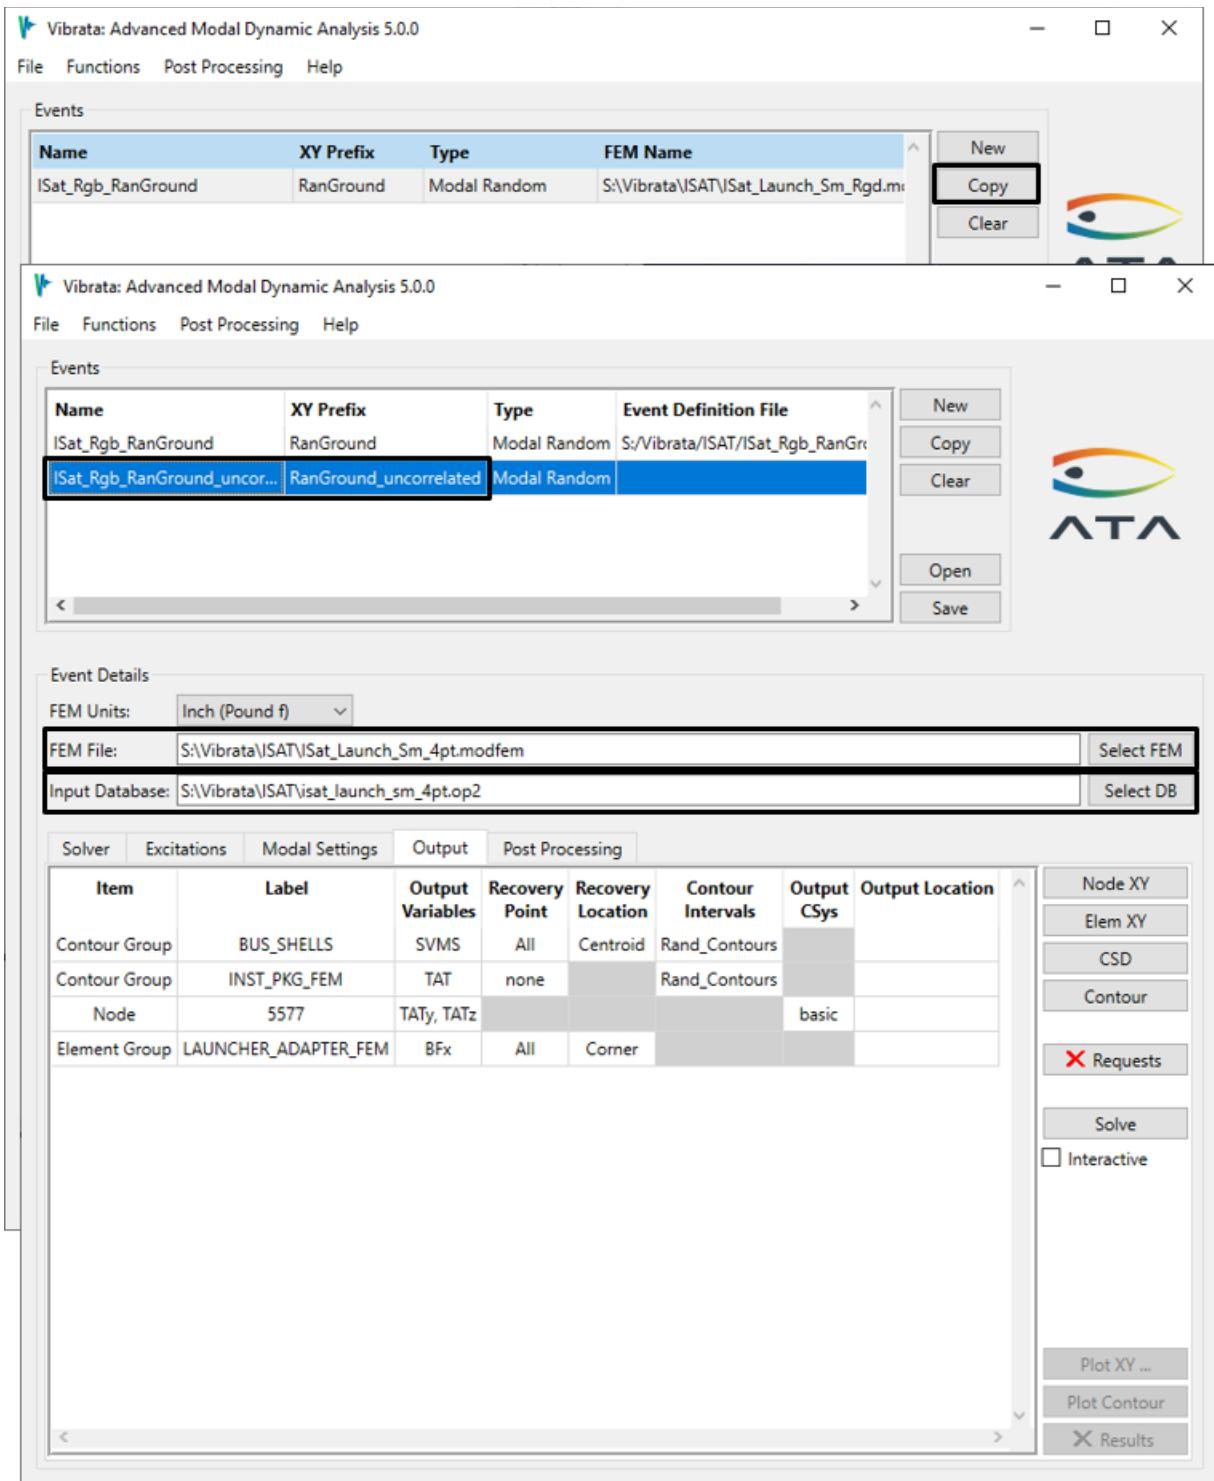

Figure 4-53. Use the **Copy** button to start a new event from the event just completed.
2. In the Event Manager, copy the event from section 4.3.2 using the **Copy** button and then assign a new name to the new event (Figure 4-53). Set the XY-Plot Prefix to "RanGround_uncorrelated" and change the event name to "Isat_Rgd_RanGround_uncorrelated". Use the **Select FEM** button to select the modfem file for the four-point model. Use the **Select OP2** button to select the OP2 with the same name. You will see a dialog warning of possible changes to excitations and output requests for the new FEM; confirm that you want to make the change. The two events will be identical in their modal settings and output requests, although the new event will have no results yet. The excitation function will also be the same as before, but we now have four input locations instead of only one, so we will have to redefine the excitations.